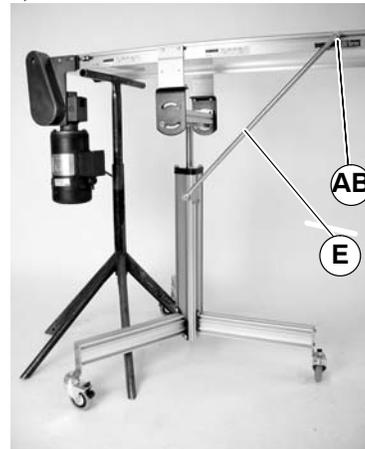

Figure 23
<p>WARNING</p> <p>Failure to secure screw (AB) of Figure 23) may cause conveyor sections to drop down, causing severe injury.</p>
10. If installed, reattach brace (E of Figure 23) and tighten brace fastening hardware (AB) to 100 in-lb (11 N-m).